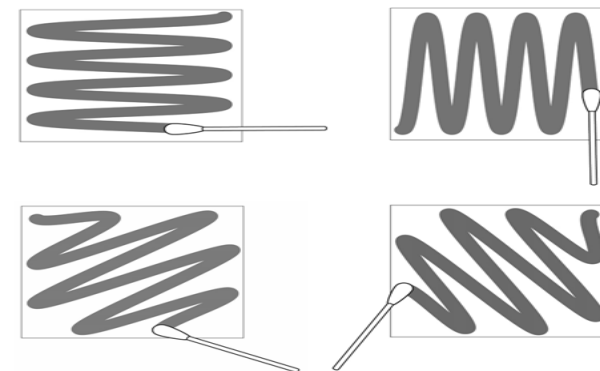

Figure 1.
- Gather the sample with the swab by using a crosshatch technique (**Figure 1**). Move the swab horizontally, vertically, diagonally while rotating the tip. Repeat this starting from a different angle each time.